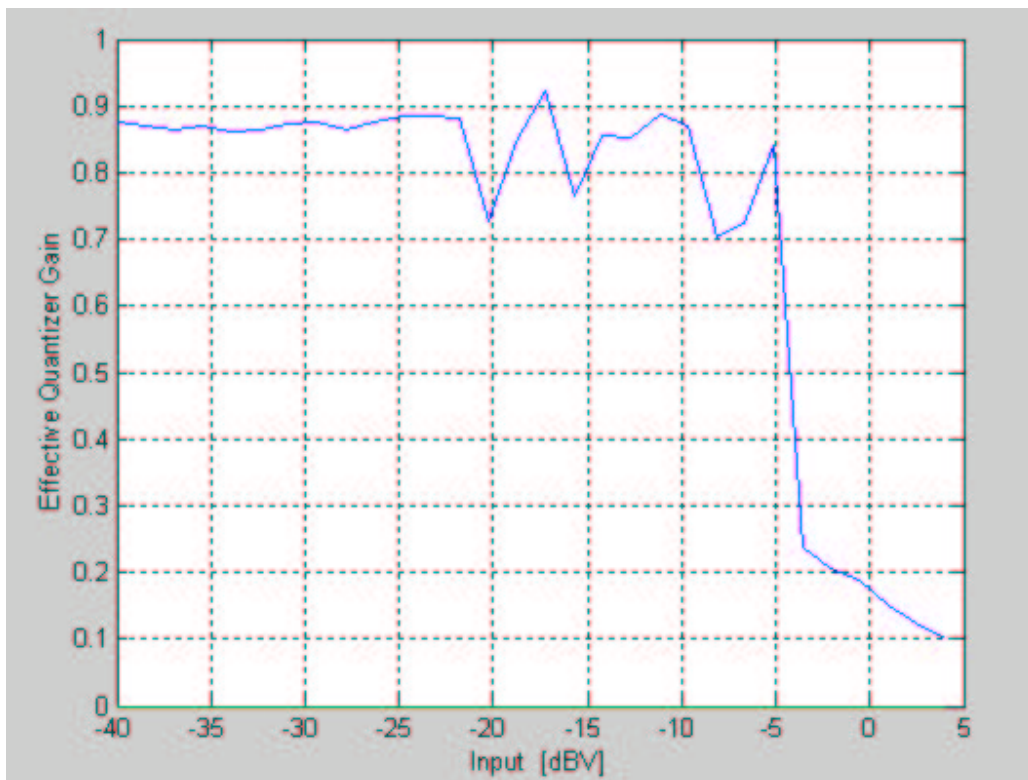

Figure 3. Effective gain vs input power.
- d** In Figure 3, the effective gain is plotted as a function of input power. As it is shown, the modulator is stable for all the inputs.